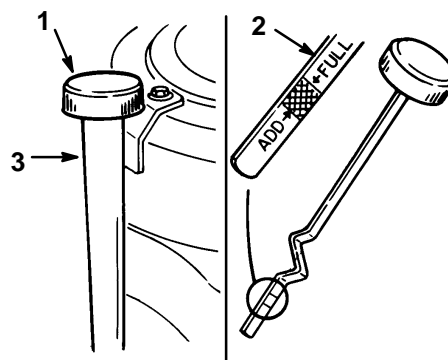

Figure 17
3. Clean around the oil dipstick (Fig. 17) so dirt cannot fall into the filler hole and damage the engine.
4. Unscrew the oil dipstick and wipe the metal end clean (Fig. 17).
5. Slide the oil dipstick fully onto the filler tube, do not thread onto tube (Fig. 17). Pull the dipstick out and look at the metal end. If oil level is low, slowly pour only enough oil into the filler tube to raise the level to the "FULL" mark.